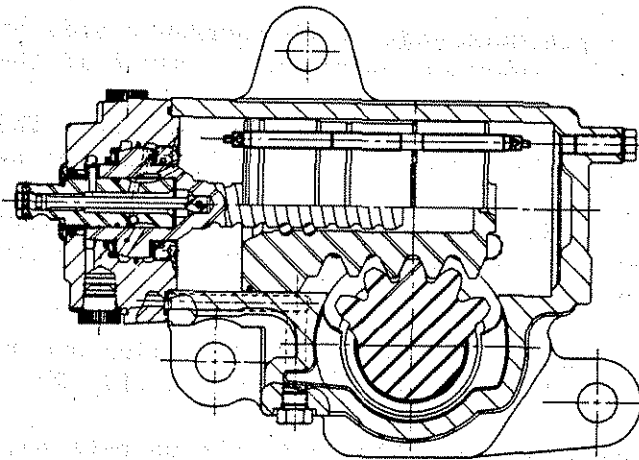

FIG 2. PROPERLY SET POPPETS
5. Turn the wheel in the opposite direction and repeat the above procedure. Both poppets are now set (fig 2).